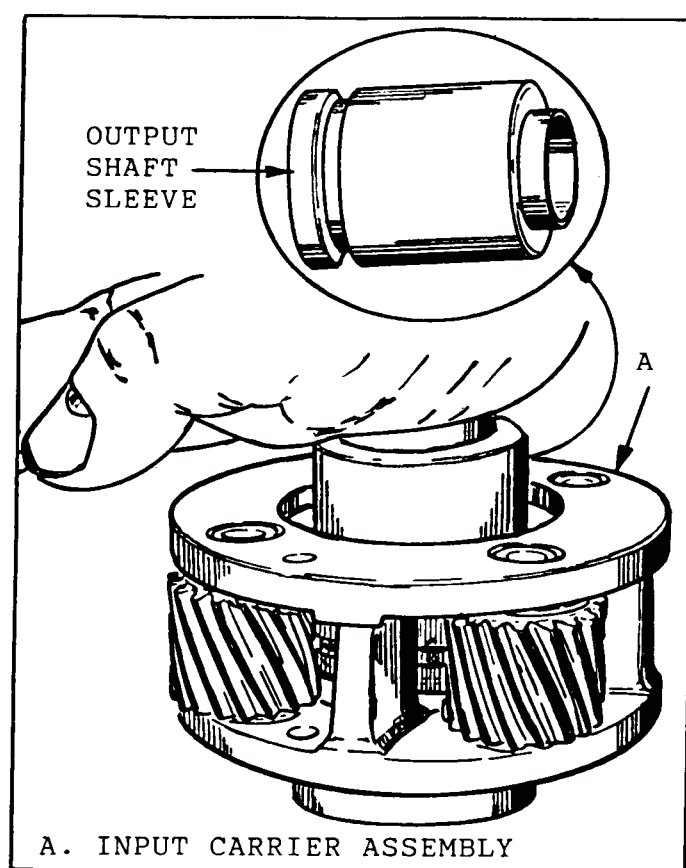

Figure 61
- *To check the trapped thrust bearing in the carrier for wear place a bushing or output shaft sleeve on the bearing race (Do not contact the pinion gears), and turn it with the palm of your hand. Any imperfections will be felt through the sleeve. (See Figure 61).
- *Trapped bearing for wear or damage (See Figure 61).